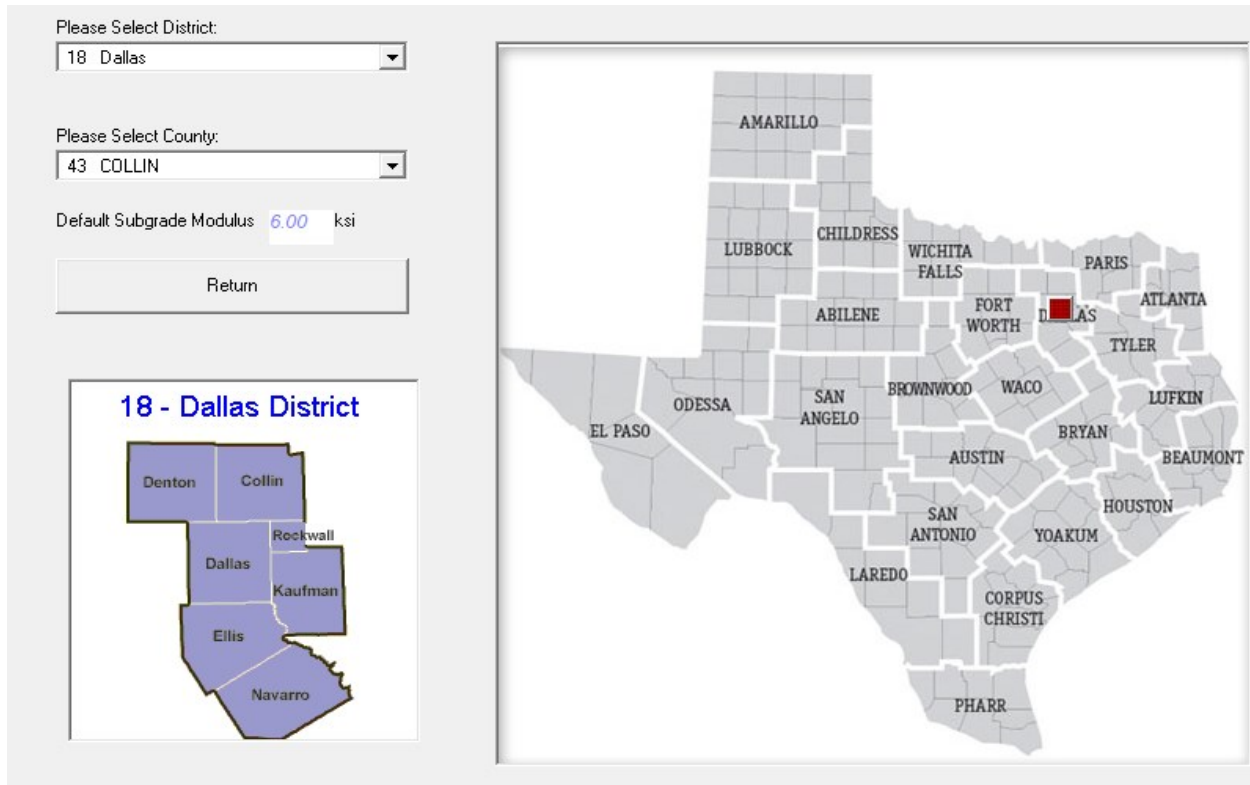

Figure 3. Selecting District and County to obtain Default Subgrade Modulus Value.
1. Click the **District** or **County** input box in the main screen to open the Texas map, as shown in Figure 3.